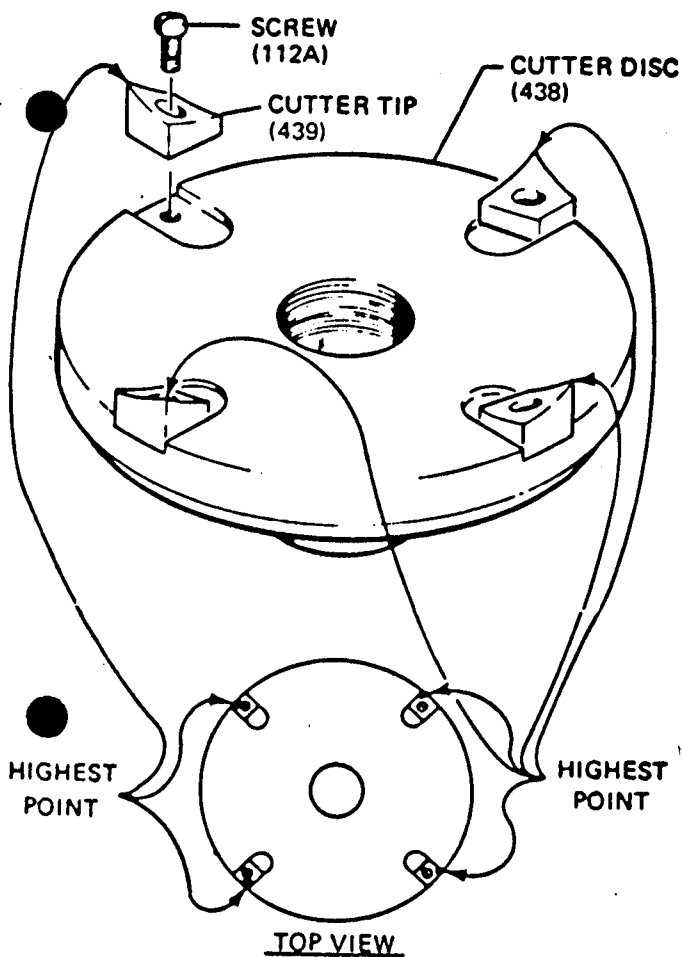

Figure 1.
1. Secure adaptor plate gasket (79) and adaptor plate (40) to pump body (1) using lock washers (215B) and screws (112C).
2. Press bearing (29) on shaft (26) and locate slinger ring (77) near bearing on threaded end of shaft.
3. Press shaft assembly into pump body (1) securing with snap ring (66).
4. Install mechanical seal (69) using the following Procedure:
- (b) Oil the outer surface of the seal seat and push the assembly into the bore in the pump body (1), seating it firmly and squarely.
5. Locate seal washer (423) on threaded end of shaft (26) and screw rotor on shaft in a clockwise direction (RH thread).
6. Secure stator (21) and stator housing (14) to pump body using lock washers (215B) and screws (112C).
7. Attach cutter tips (439) to cutter disc (438) with screws (112A). See Figure 1 for correct position.
8. Screw cutter tip and cutter disc assembly on rotor (21) in a clockwise direction (RH thread).